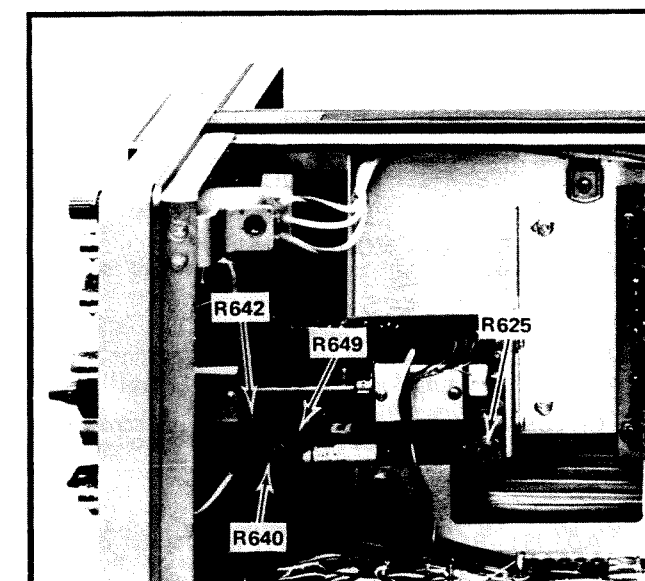

Fig. 5-21. Location of R625, R640, R642, and R649.
e. ADJUST—R649 (see Fig. 5-21) for an output voltage of .4 volt.
f. Connect the Precision DC voltmeter to monitor the voltage across R642 (see Fig. 5-21).
h. ADJUST—40 mA R640 (see Fig. 5-21) for a voltage measurement of 30.6 volts.
- t. ADJUST—R625 (see Fig. 5-21) to align the leading edges of the calibrator square wave with the 1 millisecond time markers.
- y. ADJUST—R625 (see Fig. 5-21) for slowest drift of time markers across calibrator square wave.
- ae. ADJUST—repeat steps u through y to adjust R625 (see Fig. 5-21) for slowest drift of time markers.